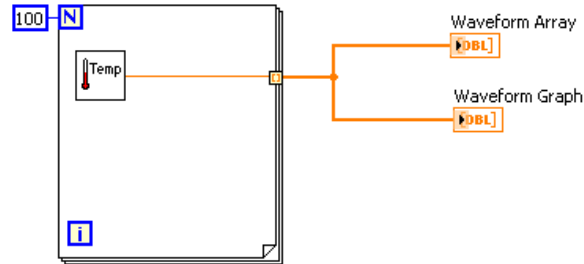

Figure 5.17
1. Build the block diagram shown in Figure 5.17.
- c. Wire the block diagram as shown in Figure 5.17.